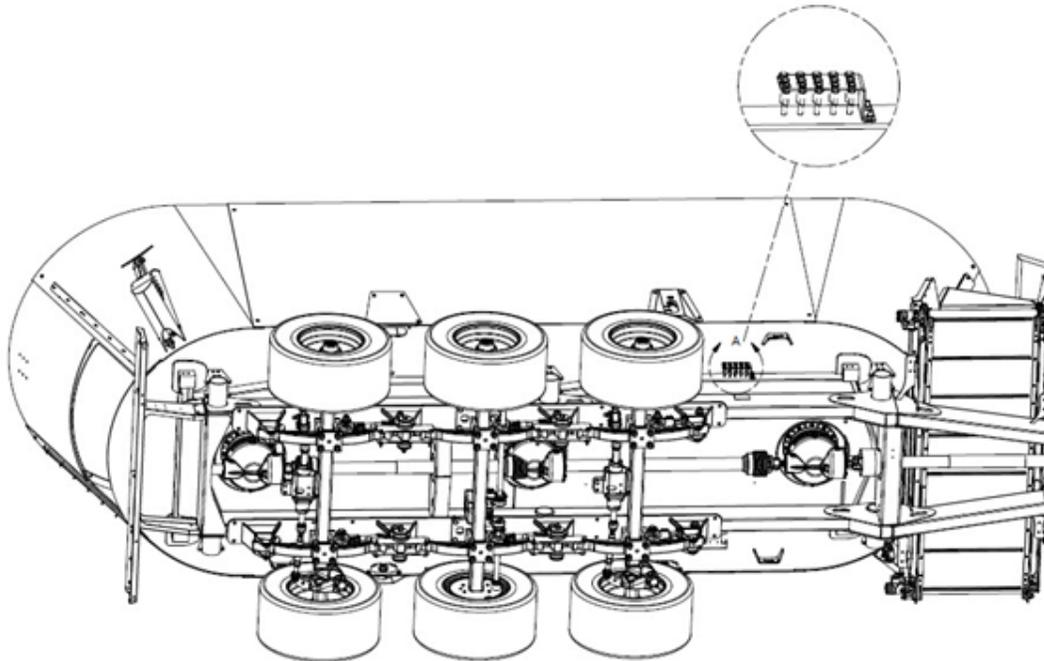

Figure 41 — Location of the Shear Bolts on the A950 and A1230 SMARTMIX
3. Insert a new bolt (available on the spare bolt support) (Figure 41) (see Table 17 — Power Take-Off (PTO) Shear Bolts in "Appendix A — SMARTMIX maintenance summary tables" on page 132 for the type of shear bolt to use for your mixer model).